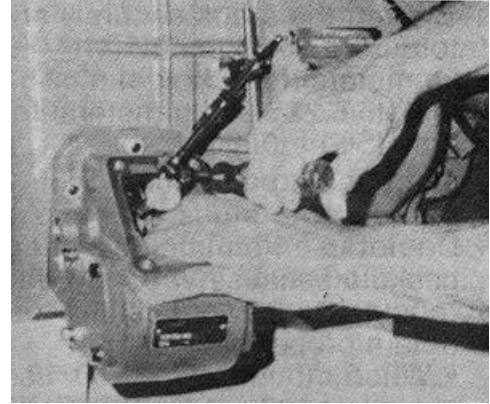

Fig. 10
2. Mount the dial indicator so that it registers movement of the input gear (driven gear) of the P.T.O. (See Fig. 10.)